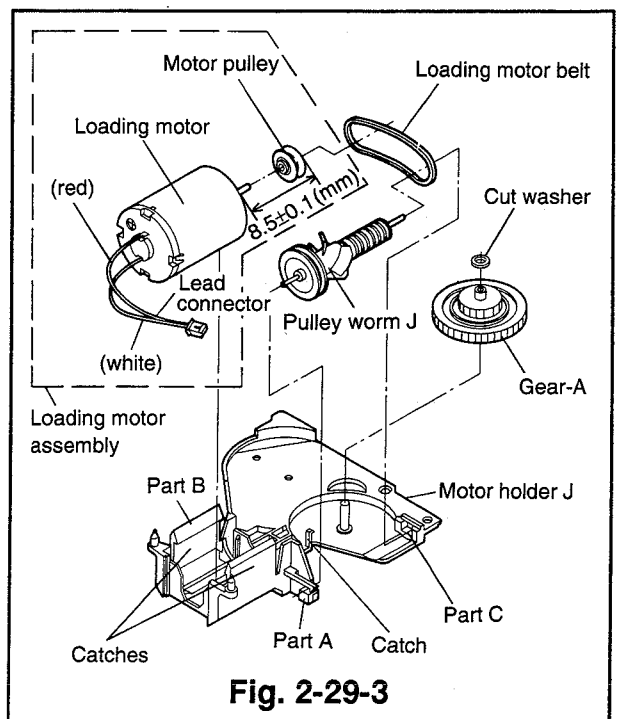
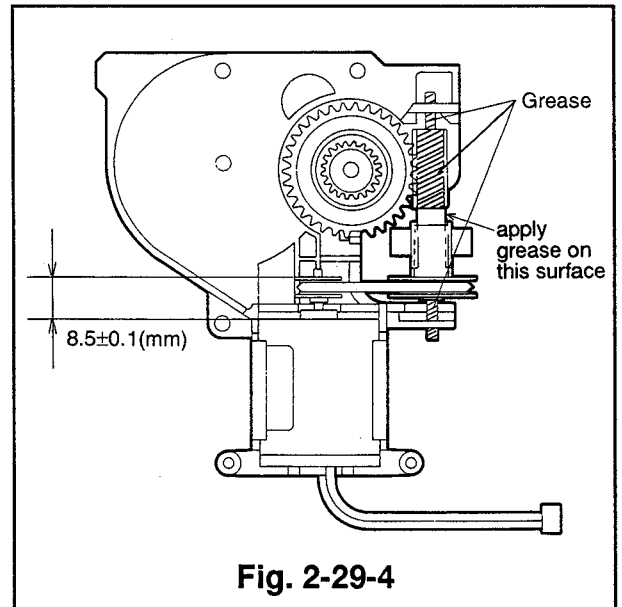

Fig. 2-29-3
Fig. 2-29-4
- ③ Remove the loading motor belt from the motor pulley. (Refer to Fig. 2-29-3.)
- ④ Unfasten the catches holding the motor holder to remove the loading motor assembly. (Refer to Fig. 2-29-3.)
- ⑤ Remove the pulley worm J, first the end attached to the part A shown in Fig. 2-29-3 and then the other end.
- ⑥ Remove the cut washer and unfasten the catch holding Gear A. Remove Gear A.
- ⑦ Pull the motor pulley to remove it from the loading motor.
- ⑧ Disconnect the wires from the loading motor.
- ① Solder the leads to the loading motor. (Red lead wire to the positive terminal and white lead wire to the negative terminal.)
- ② Install the motor pulley on the loading motor so that the space between the loading motor and the outer edge of the motor pulley is 8.5 ± 0.1 mm. (Refer to Fig. 2-29-4)
- ③ Install the loading motor assembly so that the label on it faces part B, shown in Fig. 2-29-3.
- ④ Apply grease (G)[859D055O50] to the areas shown in Fig. 2-29-4 of the new pulley worm J. Install the pulley worm J, first the end attached to the part C shown in Fig. 2-29-3 and then the other end.
- ⑤ Fix the gear A to the shaft of the motor holder J and secure it with new cut washers.
- ⑥ Lift the end attached to the part A shown in Fig. 2-29-3 of the pulley worm J. Fasten the loading motor belt on the pulley worm J and the motor pulley, taking care not to twist the belt.